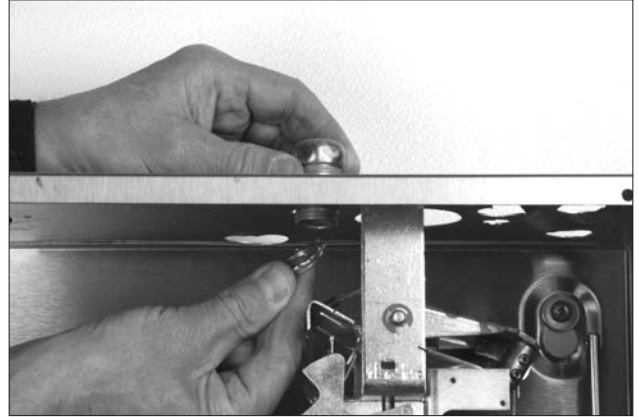

FIGURE 5-86
1. Starting at the AUTOMAN release, connect the conduit connector using the supplied nut. Use only ANSUL conduit fittings (Part No. 55813). See Figure 5-86.